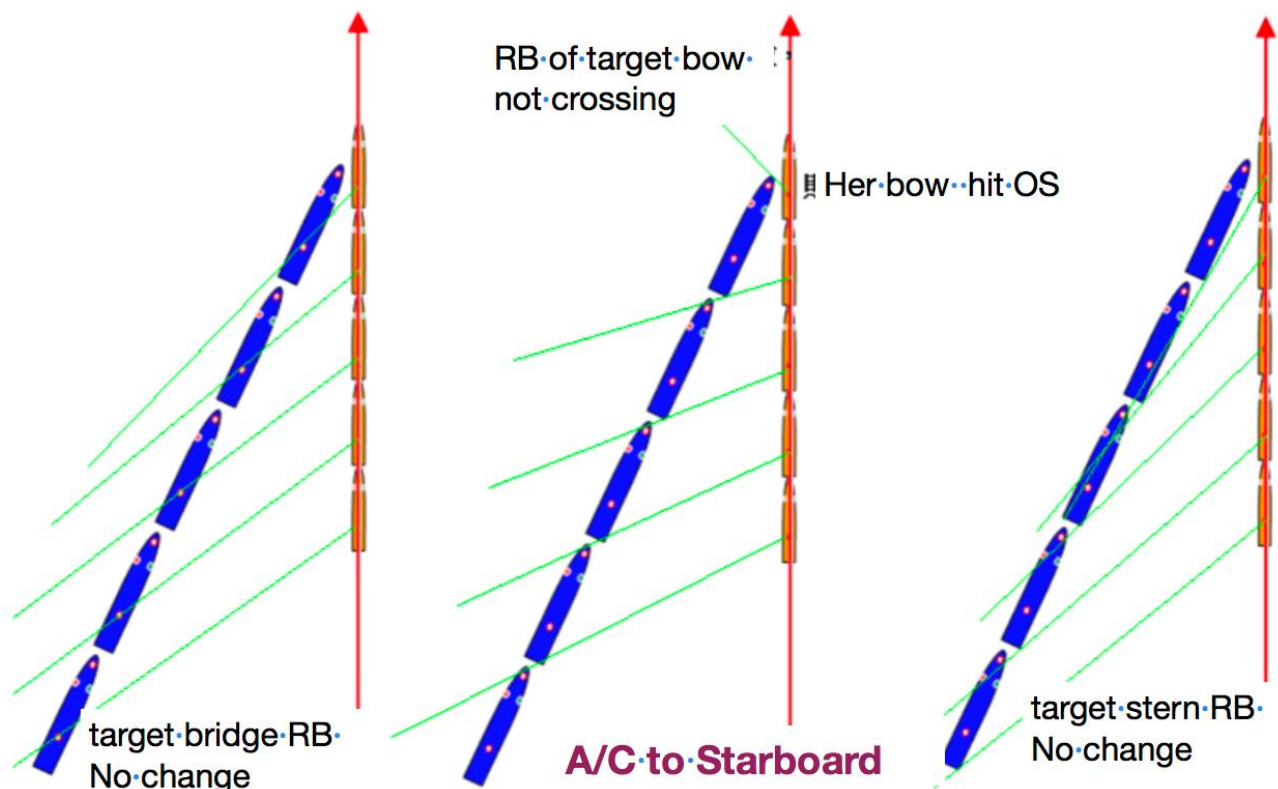

Figure 6-21: Target vessel as three different moving parts, bow, stern or bridge
One big vessel overtaking from behind, for some reason, he had not taken actions to avoid collision. This is a tricky situation for ownship (small one, vulnerable and fragile) especially when traffic is heavy around harbour area. Ownship is mingle with small supply vessels and fishing boats all inside the fairway with different speed and course (not in general direction of traffic flow). Like Figure 6-21 above, these three drawing are in exactly same collision situation. Target vessel's bow will hit ownship's port side. High speed vessel approaching fast than ownship we do not know her attention and collision risk with other vessels. If this vessel is overlooked earlier (had not acquired earlier in ARPA) by ownship we have to use our visual lookout to determine his collision risk.
- ⇒ In figure 6-21 we can see the relative bearing change of target's bow and stern is not obvious in the beginning but horizontal angle increased very quickly (expand the relative bearing range quickly) in close range.